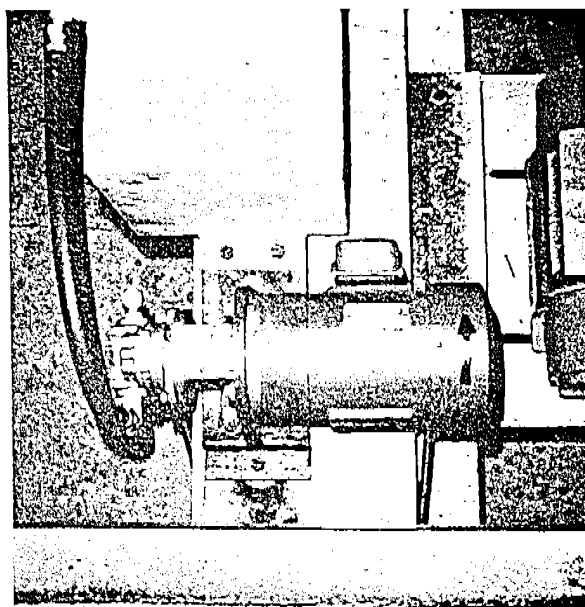

Fig. 10
- c. Connect the electrical service to the ride. IMPORTANT: "Bump" the hydraulic pump switch and check for correct rotation of the hydraulic pump. An arrow on the electric motor indicates the correct rotation. If the pump does not rotate in the same direction as the arrow indicates, switch the position of the black and red wire connections on the pump motor control in the main switch box. (Fig. 10)